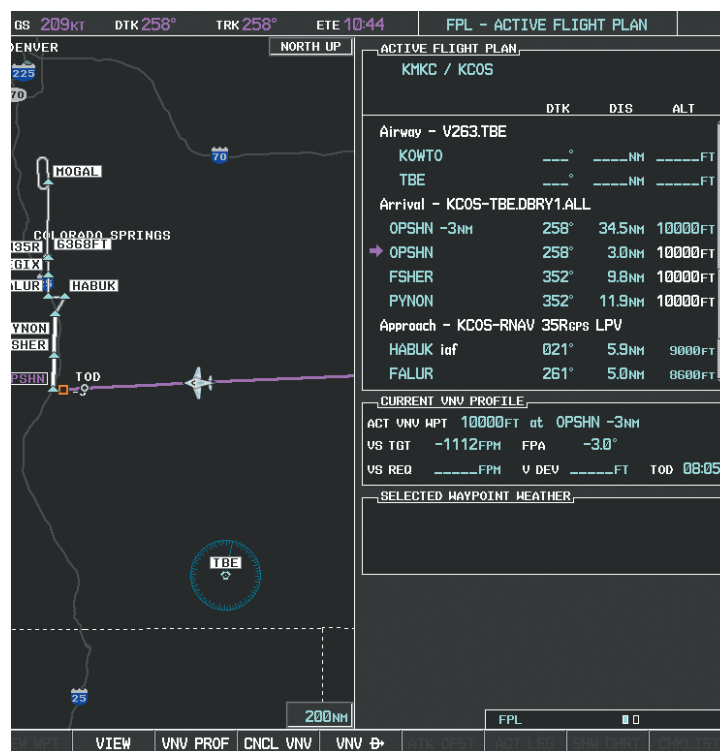

Figure 5-131 Adjusting the Descent
- Select the **VNV PROF** Softkey to place the cursor in the target vertical speed field (VS TGT) as shown in Figure 5-131.